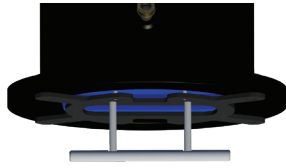

Figure 59
5.0.18) Once threaded studs are aligned, insert cartridge until cartridge alignment plate is flush with insertion housing flange face (see Figure 59).